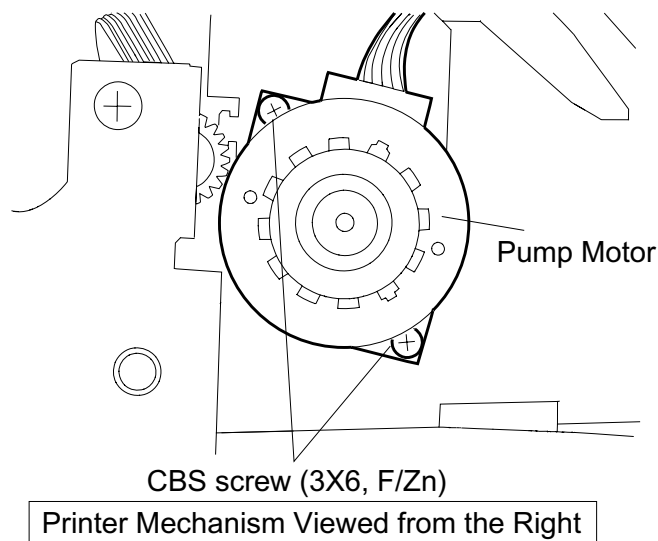

Figure 3-44. Screws Fixing the Pump Motor
2. Remove 2 screws (CBS, 3x6, F/Zn) securing the pump motor to the pump sub frame. Then remove the pump motor. (Refer to Figure 3-44.)